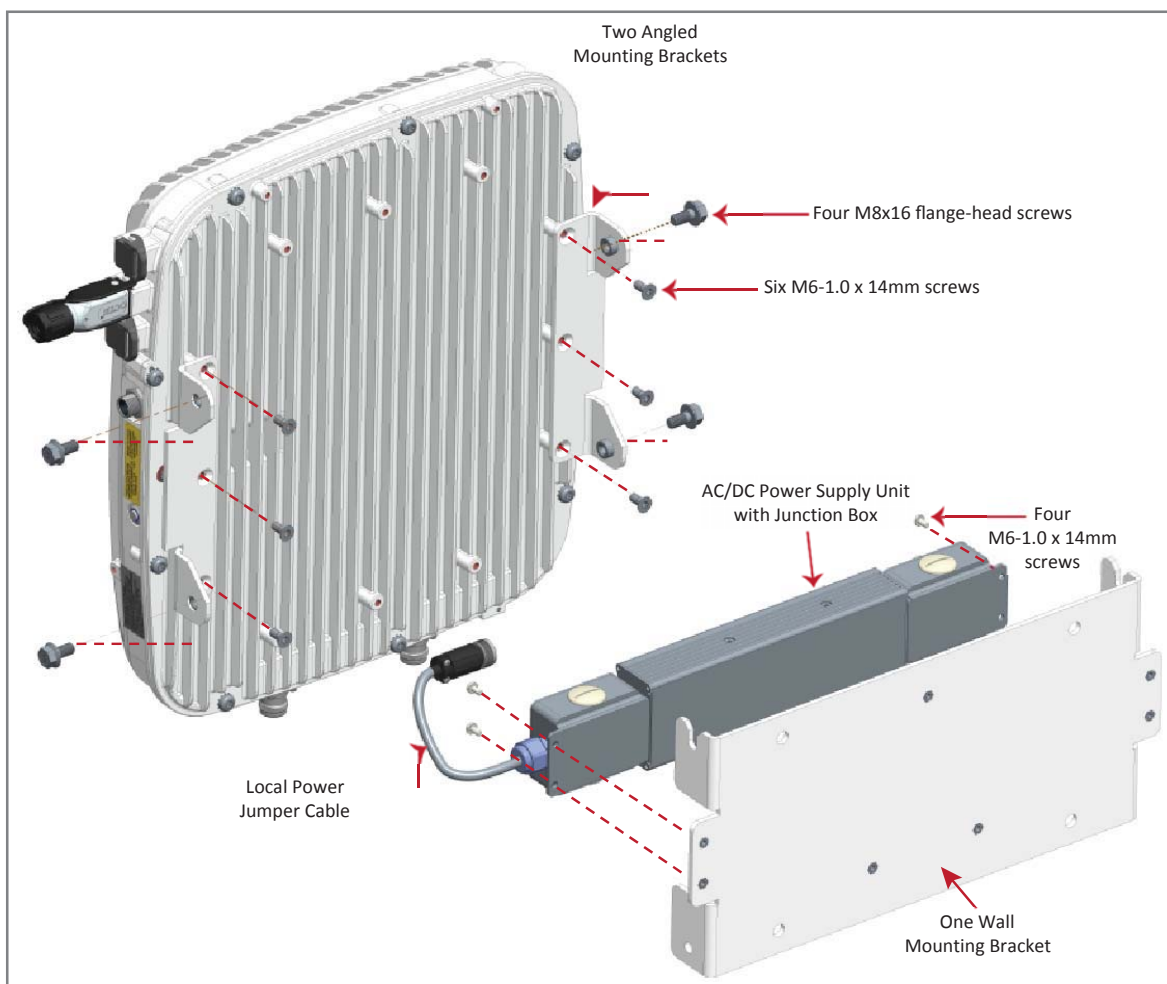
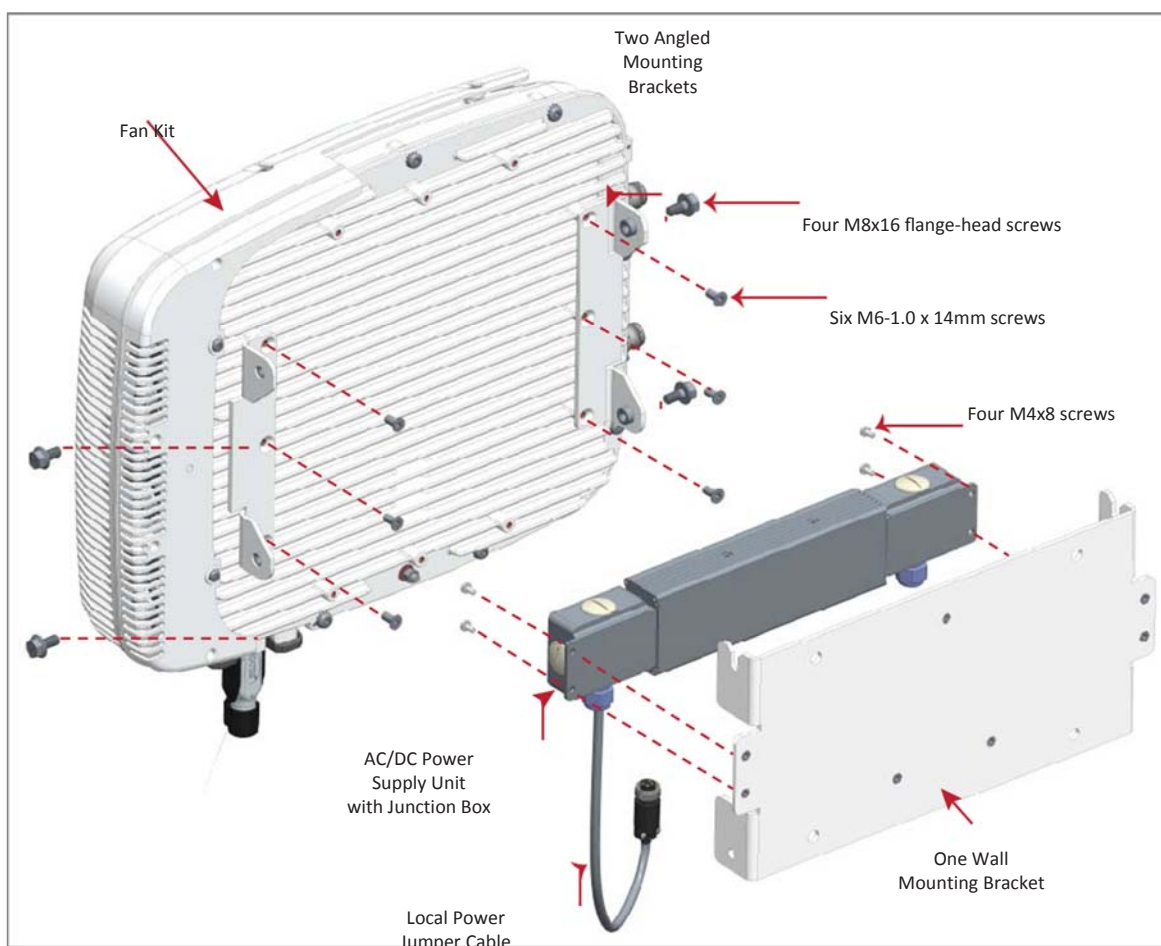

Figure 12. CAP L (No Fan Kit) with AC/DC Power Supply Kit (PN 7775087-xx) and CAP L Mounting Bracket Kit (7774354-xx)
Figure 13. CAP L with Fan Kit and with AC/DC Power Supply Kit (PN 7775087-xx) and CAP L Mounting Bracket Kit (PN 7774354-xx)
- 5 Assemble and mount the AC/DC Power Supply Kit and the CAP L, as described below and as shown in Figure 12 on page 32 (CAP L without Fan Kit) and Figure 13 on page 33 (CAP L with Fan Kit). The Local Power Jumper Cable Assembly will be connected to the AC/DC Power Supply Junction Box at the factory.